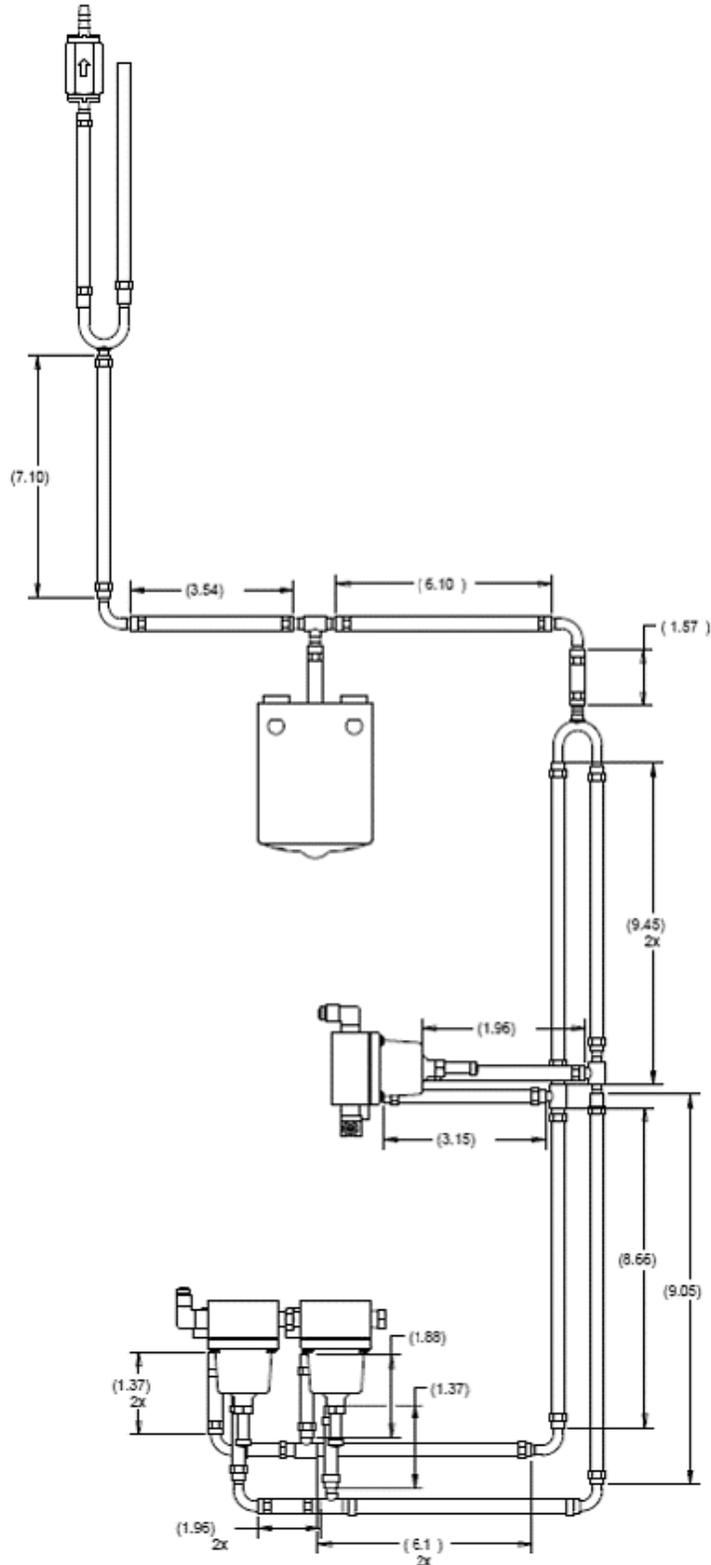
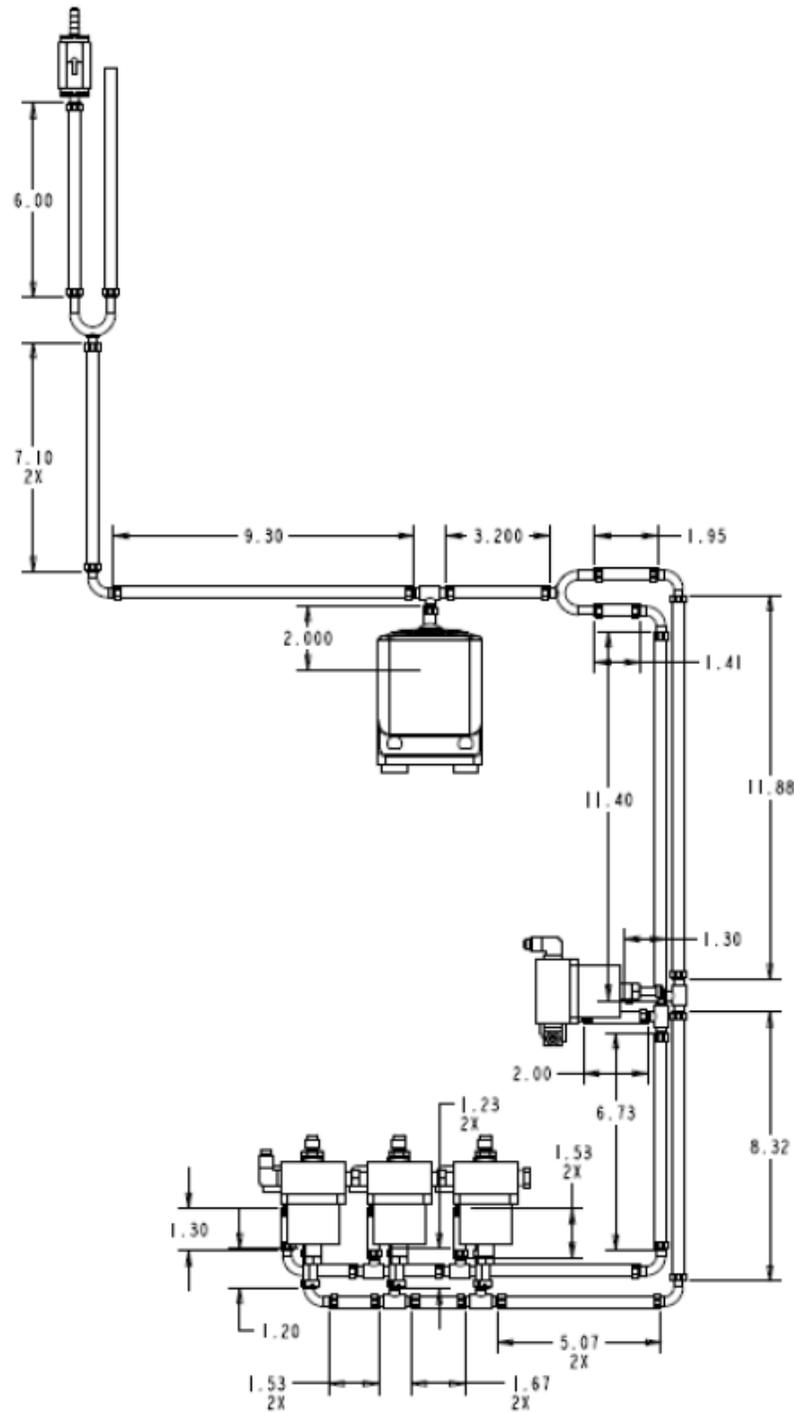

Figure 1. Approximate Cut Lengths for Tubes, Viper 2 Barrel
Figure 2. Approximate Cut Lengths for Tubes, Viper 3 Barrel
1. Cut the braided hose tube as shown in the reference diagram (Figure 1 or Figure 2).